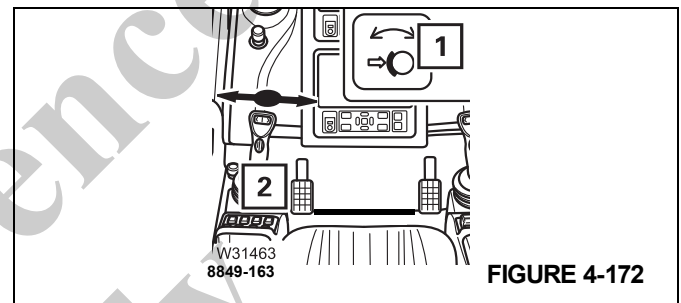

FIGURE 4-172
Lamp (1), (Figure 4-172) will extinguish if the swing brake has been released.